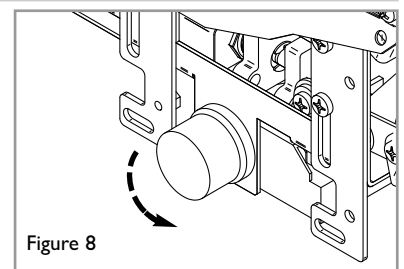

Figure 8
**Ensure appliance is off and cool.** The battery is located in the front of the ignition unit, on the right hand side of the burner (shown in figure 8). Unscrew the battery holder cap. Insert 1 x 'AA' (1.5 volt) battery. Replace cap.